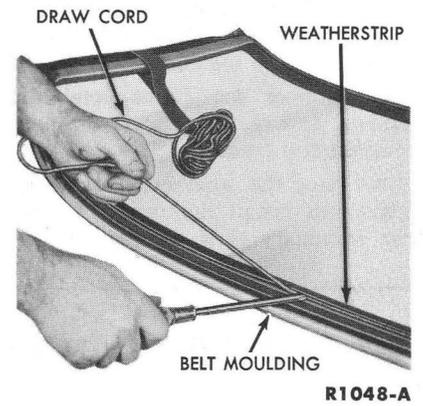

FIG. 14—Draw Cord Installation
9. Insert the draw cord in the weatherstrip (Fig. 14), and apply Ru-Glyde to the weatherstrip surfaces that will contact the windshield opening flange.